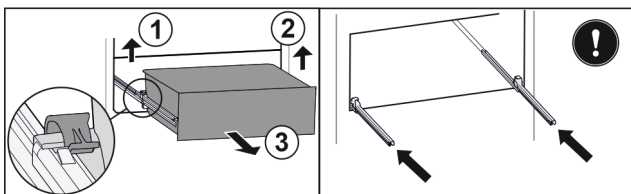

Fig. 81
- ▶ Lift left clamp and simultaneously pull drawer forwards on the left. Fig. 81 (1)
- ▶ Lift right clamp and simultaneously pull drawer forwards on the right. Fig. 81 (2)
- ▶ Remove drawer to the front. Fig. 81 (3)